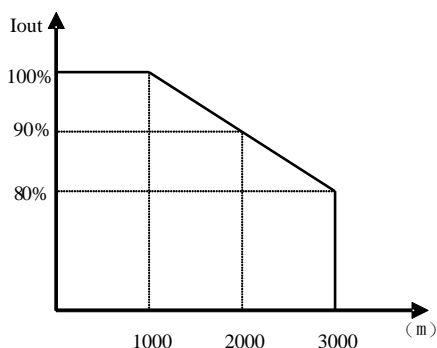

Fig 1-1 Derating drive's output current with altitude
- ◇ De-rating must be considered when the drive is installed at high altitude greater than 1000m. This is because the cooling effect of drive is deteriorated due to the thin air, as shown in Fig1-1.